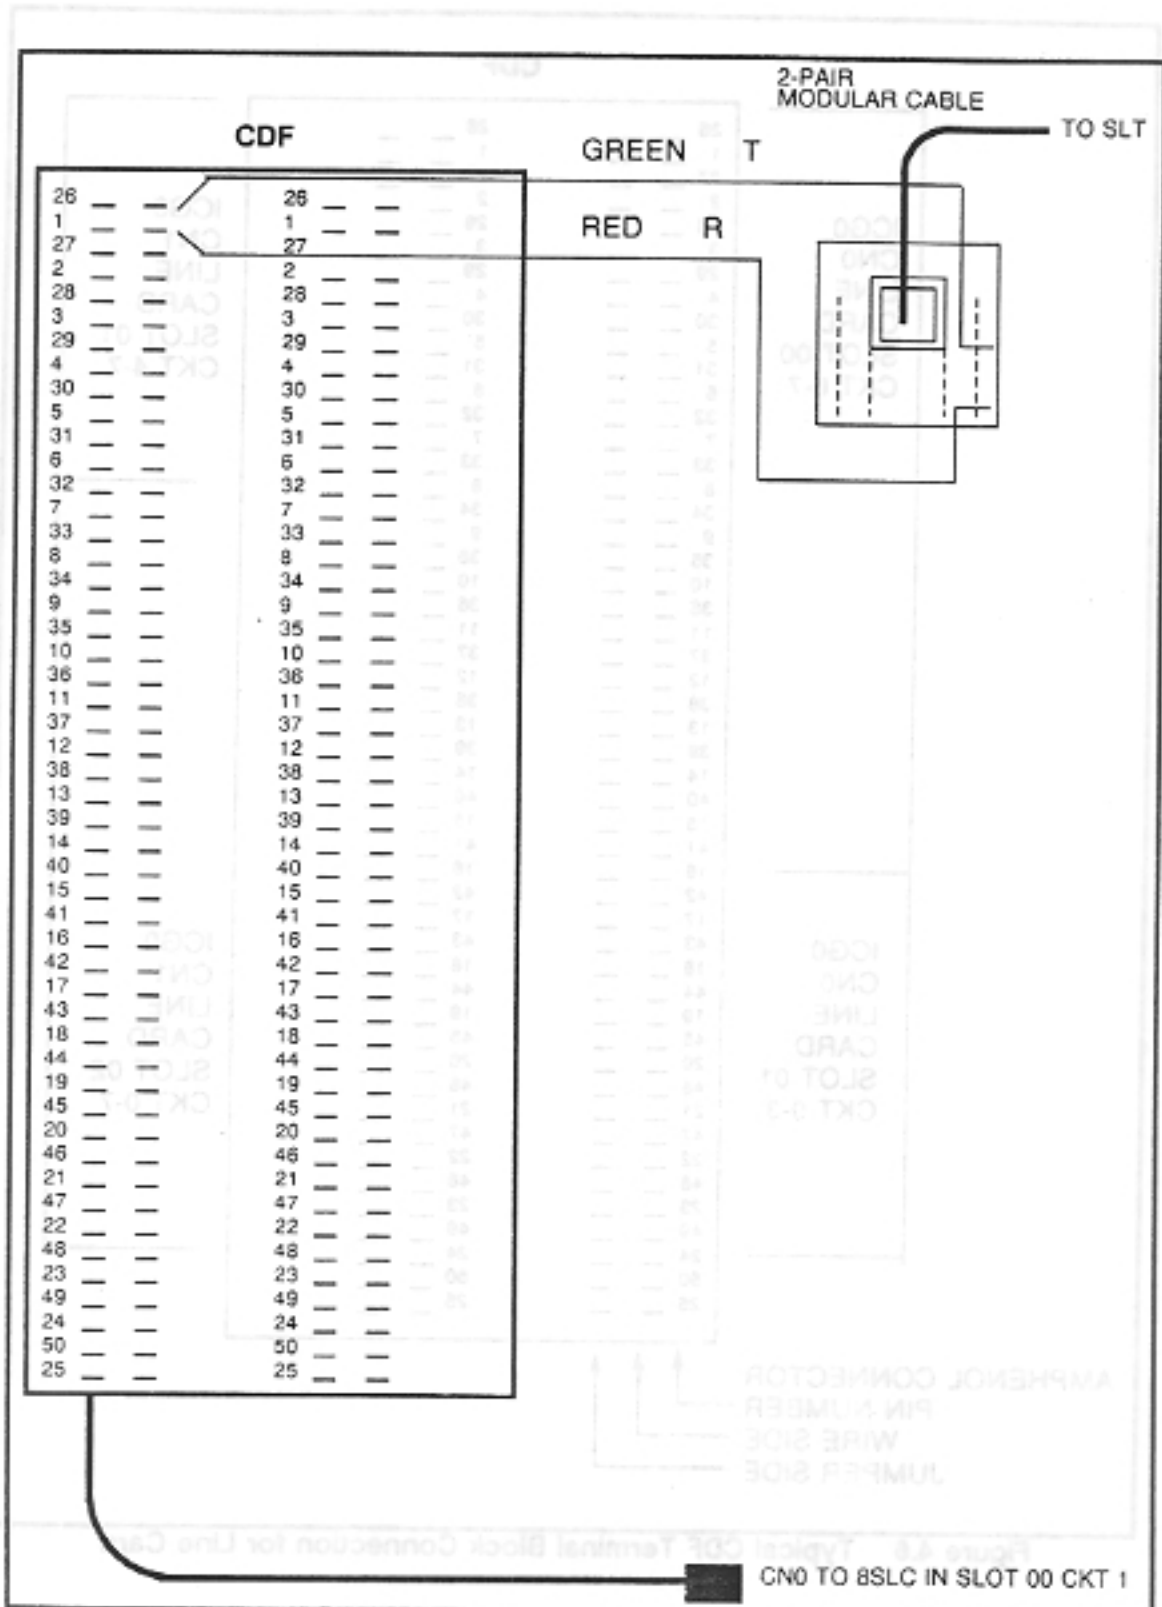

Figure 4.7 Example CN, CDF to Modular Jack Connection
5. Cross connect the lines and wire the CDF cable to the CDF block. A typical installation is shown in Figure 4.7. Cross-connect information for the card is provided in Table 4.3 for CDF cables 0, 2, 4, 6, and 8; and Table 4.4 for CDF cables 1, 3, 5, 7, and 9.